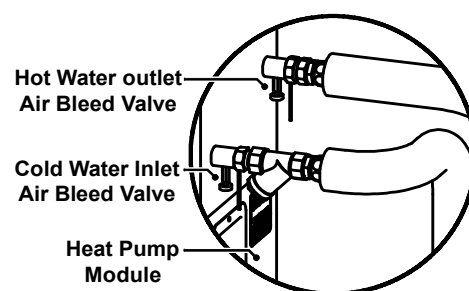

Fig. 5
- Open the air bleed valves on the heat pump module (Fig. 5).